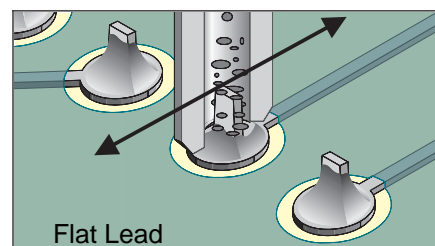

Figure 2
9. For a flat lead, move lead back and forth; for a round lead, use a circular motion and apply vacuum while continuing lead movement. (See Figures 2 & 3.)